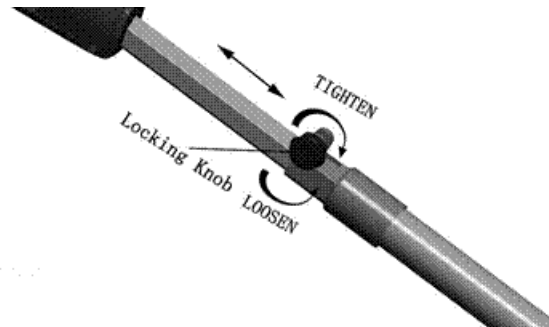

Figure 5
1. To extend the pole, loosen the locking knob (see Figure 5). Pole will slide freely.
3. To lock pole in position, tighten locking knob (see Figure 5).